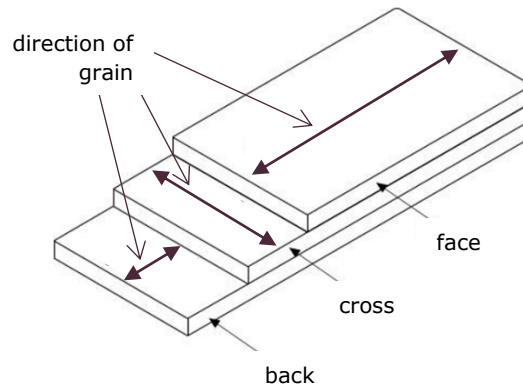

Figure 2
15. Figure 2 below illustrates a particular wood.